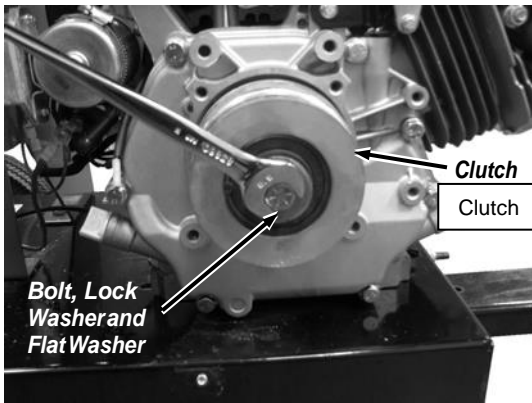

Figure 63
2. With a 5/8" Wrench, remove the Clutch Bolt, Lock Washer and Washer and then slide the Clutch from the Crankshaft (**Figure 63**).